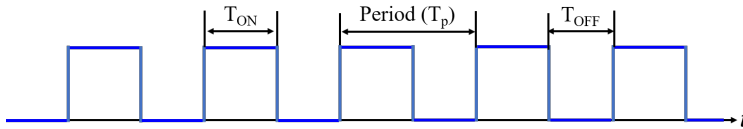

Figure 26: PWM uses a periodic signal consisting of rectangular pulses; the pulse width is modulated.
A series of rectangular pulses is shown in Figure 26. In PWM, such a signal is modulated by varying the width of the pulse while keeping the amplitude and the period (repetition interval) unchanged. It is widely used for controlling analog devices, *e.g.*, changing brightness of LED and changing motor speed.
- **Duty cycle** is the fraction of the period when the signal is ON. It is typically expressed as a ratio or percentage. Referring to Figure 26,